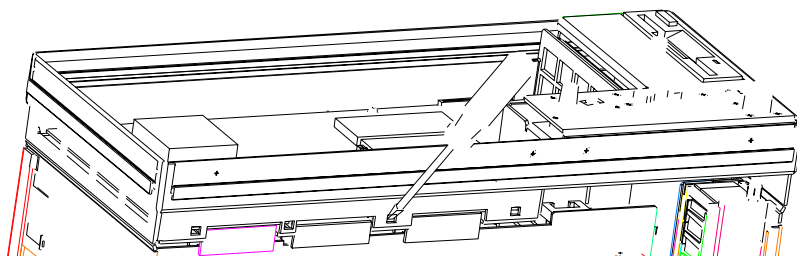

Fig. 3-2 Removing the front module controller
- Remove the 10 sems screws (590) in the front module controller and remove the front module controller in the following way (see Fig. 3-2):